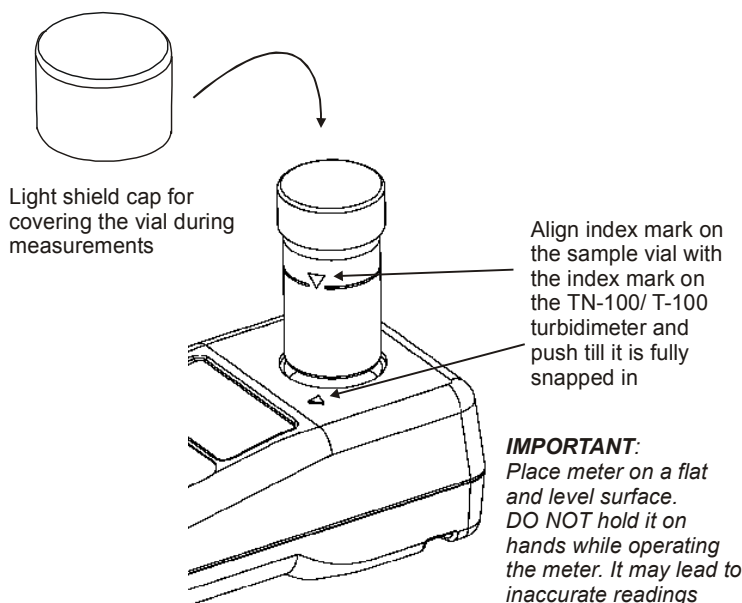

Figure 10: Align sample vial's index mark with meter's index mark
2. Insert the CAL 1 standard (800 NTU) into the sample well, aligning the mark on the vial with the mark on the meter. See **Figure 10** on page 12.
2. Place the sample vial inside the sample well and align the vial's index mark with the meter's index mark. See **Figure 10**.